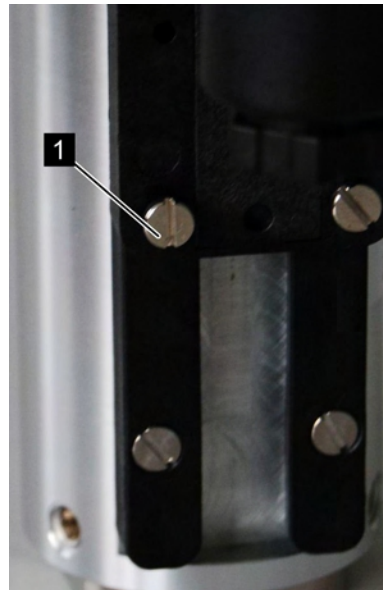

Fig. 31: Loosen set screws
2. Loosen the set screws of the switch contact (Fig. 31/1) using a flat-bladed screwdriver
6.  Re-tighten the set screws of the switch contact (Fig. 31/1) using a flat-bladed screwdriver. When doing so, observe the correct tightening torque of the screws.